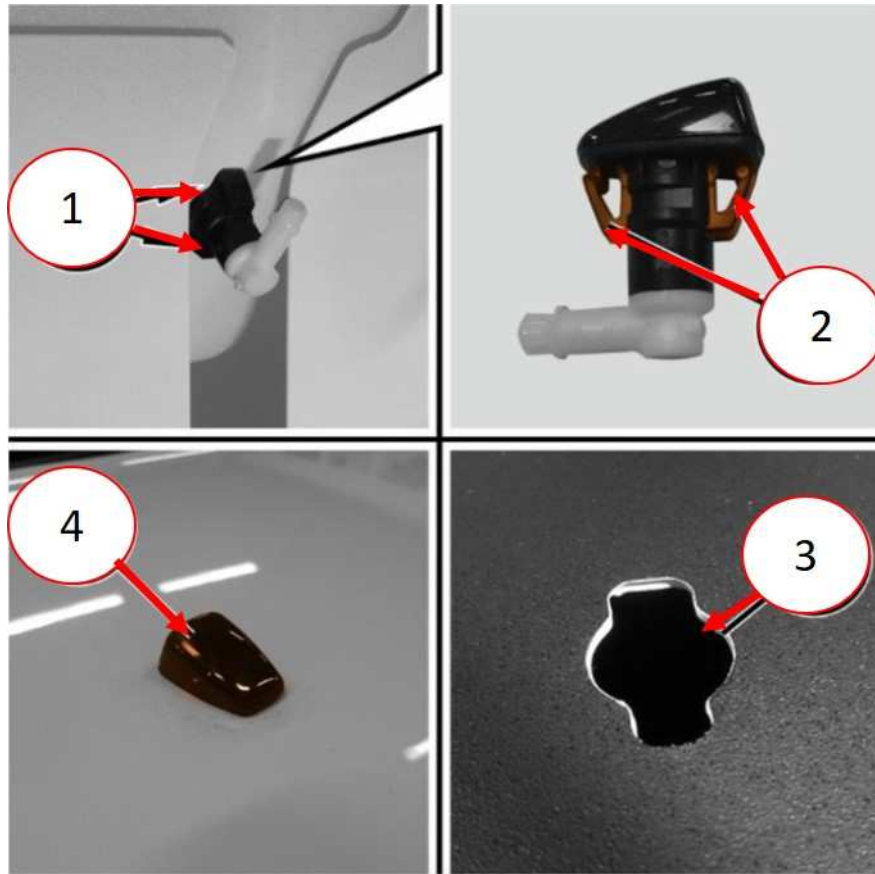

Fig. 4
- 14. Install the washer spray nozzles to the hood (Fig. 4) .
15. Clip the windshield washer hose to the hood (Fig. 4) .
16. Reconnect the windshield washer hose to the connectors (Fig. 4) .